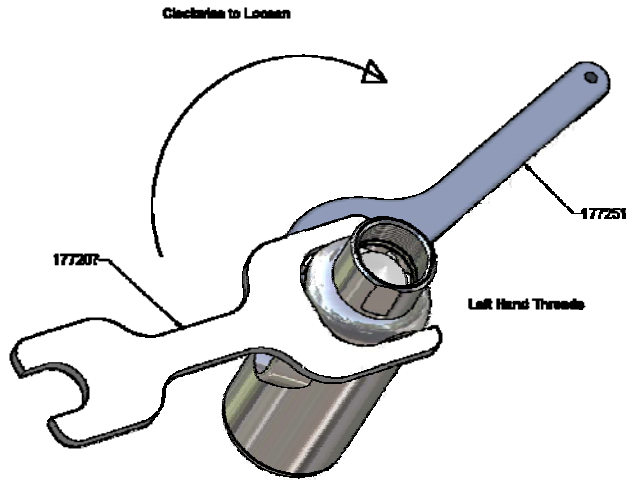

Figure 9
2. Remove position 1 by rotating clockwise while holding inlet ring; position 12.4 using spanner wrenches as shown in Figure 26 and Figure 28. Also see Figure 9.